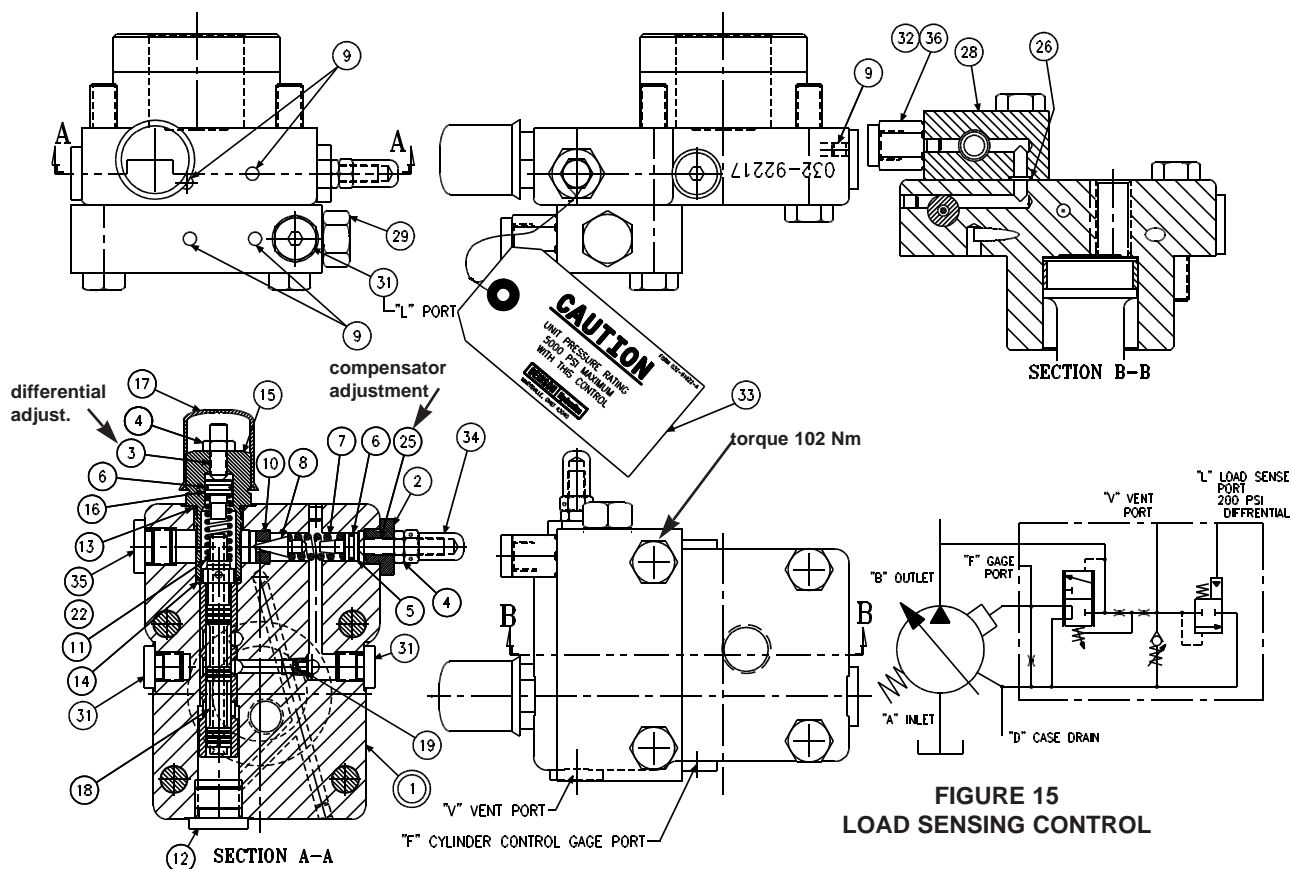

FIGURE 15
1. **See Figure 15** Back off max. volume screw to full displacement. Remove max. volume screw assembly.
3. Remove isolation valve (29) from block (28). Remove plug (15) and attached parts. Remove spring (11) and spool (18).
4. Remove adj. plug (2) and attached parts. Remove seal piston (5). Note: a 10-24 screw may be used to assist in pulling the piston. Remove spring (7) and cone (8).
5. Do not remove sleeve in body (1). Sleeve is pressed into cap and finished to size. If sleeve or cap is worn, replace the cap-sleeve assembly (1).
6. Examine seat (10) for wear. Do not remove unless damaged.
PARTS LIST FOR FIGURE 15